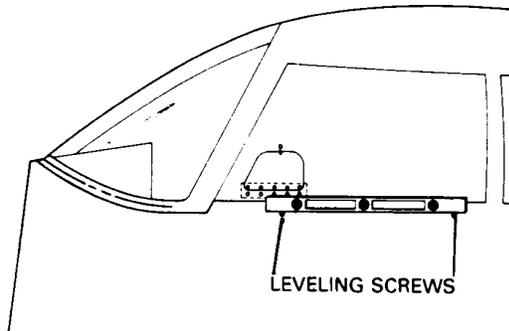

Figure 2-6. Leveling Longitudinally
- a. To longitudinally level the airplane, partially withdraw the two leveling screws located immediately below the left front side window. (Refer to Figure 2-6). Place a level on these screw heads and adjust the jacks until the level is centered. Should the airplane be either on scales or on the floor, first block the main gear oleos to full extension; then deflate the nose wheel until the proper position is reached.